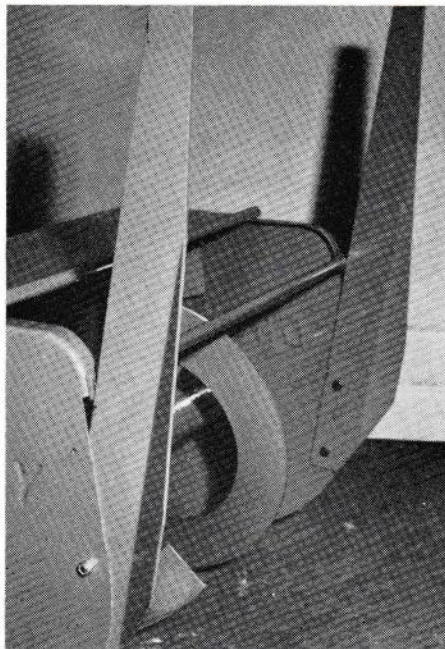

Figure 27
**DRIFT CUTTERS.** Two Drift Cutters are provided. These mount inside the reel housing ends and extend upward to slice through snow up to 30 inches deep. The Drift Cutters are flared to assist in turning in deep snows. No adjustment is necessary. Figure 27